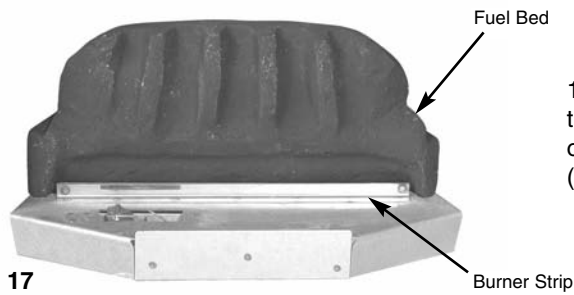

Fig. 17
1. Place the main fuel bed on to the middle section of the metal burner tray. It is important that the front edge of the fuel bed is located behind the burner strip (Fig. 17).